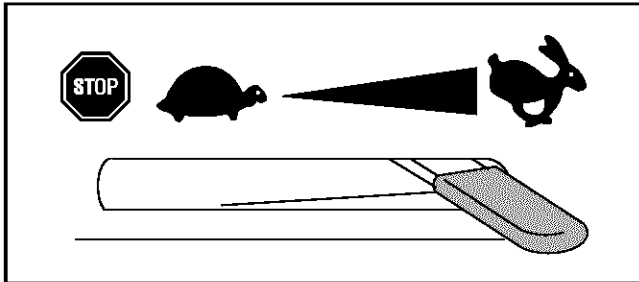

Figure 11
- Move throttle control lever to FAST (rabbit) position. See Figure 11.